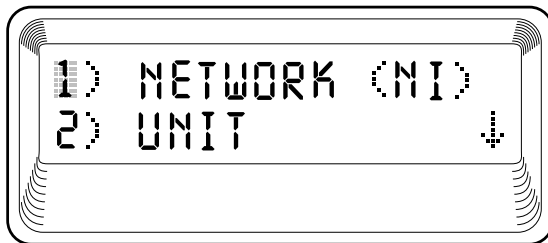

Figure 4-2
From the Main menu select the Configuration menu. The unit displays the first two Configuration menu items: Network (NI) (network interface) and Unit (see Figure 4-2).